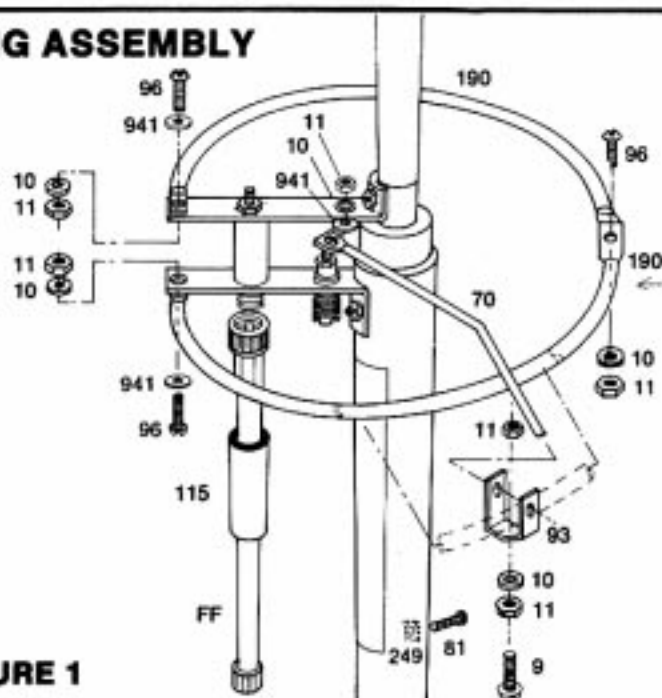
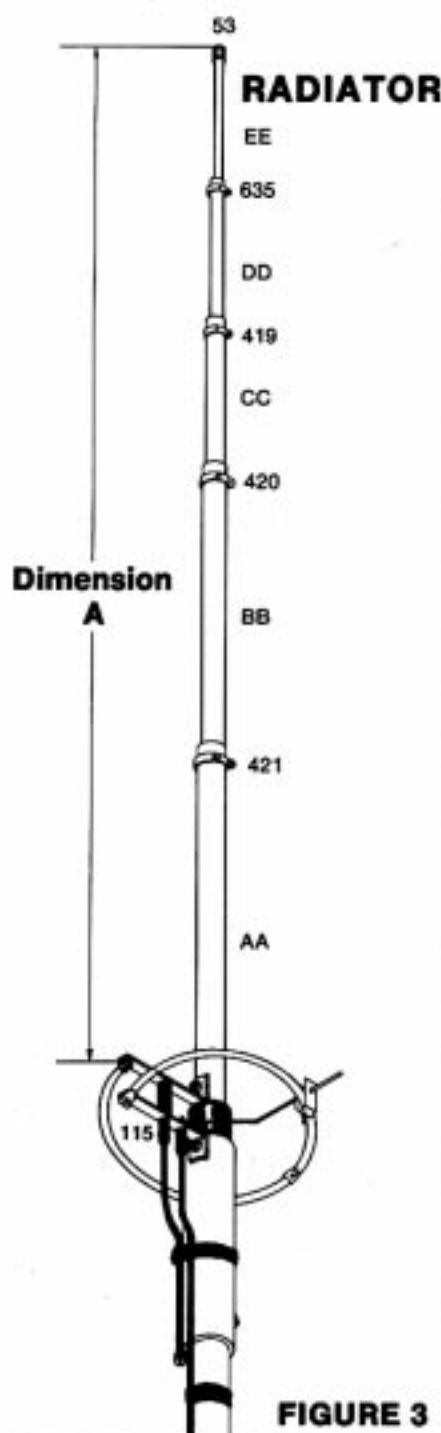

FIGURE 1
FIGURE 3
All steps for assembling the ring and tuning assembly to the base section (AA) are shown in figure 1. Mount one ring section (190) to the bottom side of the lower bracket on the base section. Mount the remaining ring section (190) to the top side of the upper bracket on the base section. Connect the two ring sections, forming a circle around the base section.
The radiating section should be layed out in the proper order according to figure 3. All of the tubing should be positioned so that the slotted end is toward the next smallest piece of tubing. Starting at the base insert each section 4" (10.2 cm) into the next larger piece of tubing and secure by tightening the proper size hose clamp. Place the hose clamp close to the end over the slotted portion of each piece of tubing. Adjust tubing section EE according to chart A. Press the 1/2" (1.3 cm) black plastic cap (53) onto tubing section EE. Place the mounting lock nut (249) in the indentation of the base section (AA), so that the four points on the locknut point toward the mast. Thread the mounting screw (81) through the hole in the base section and the mounting locknut. Slide the mast into the base section, tighten the screw and nut securely against the mast as illustrated in figure 1.